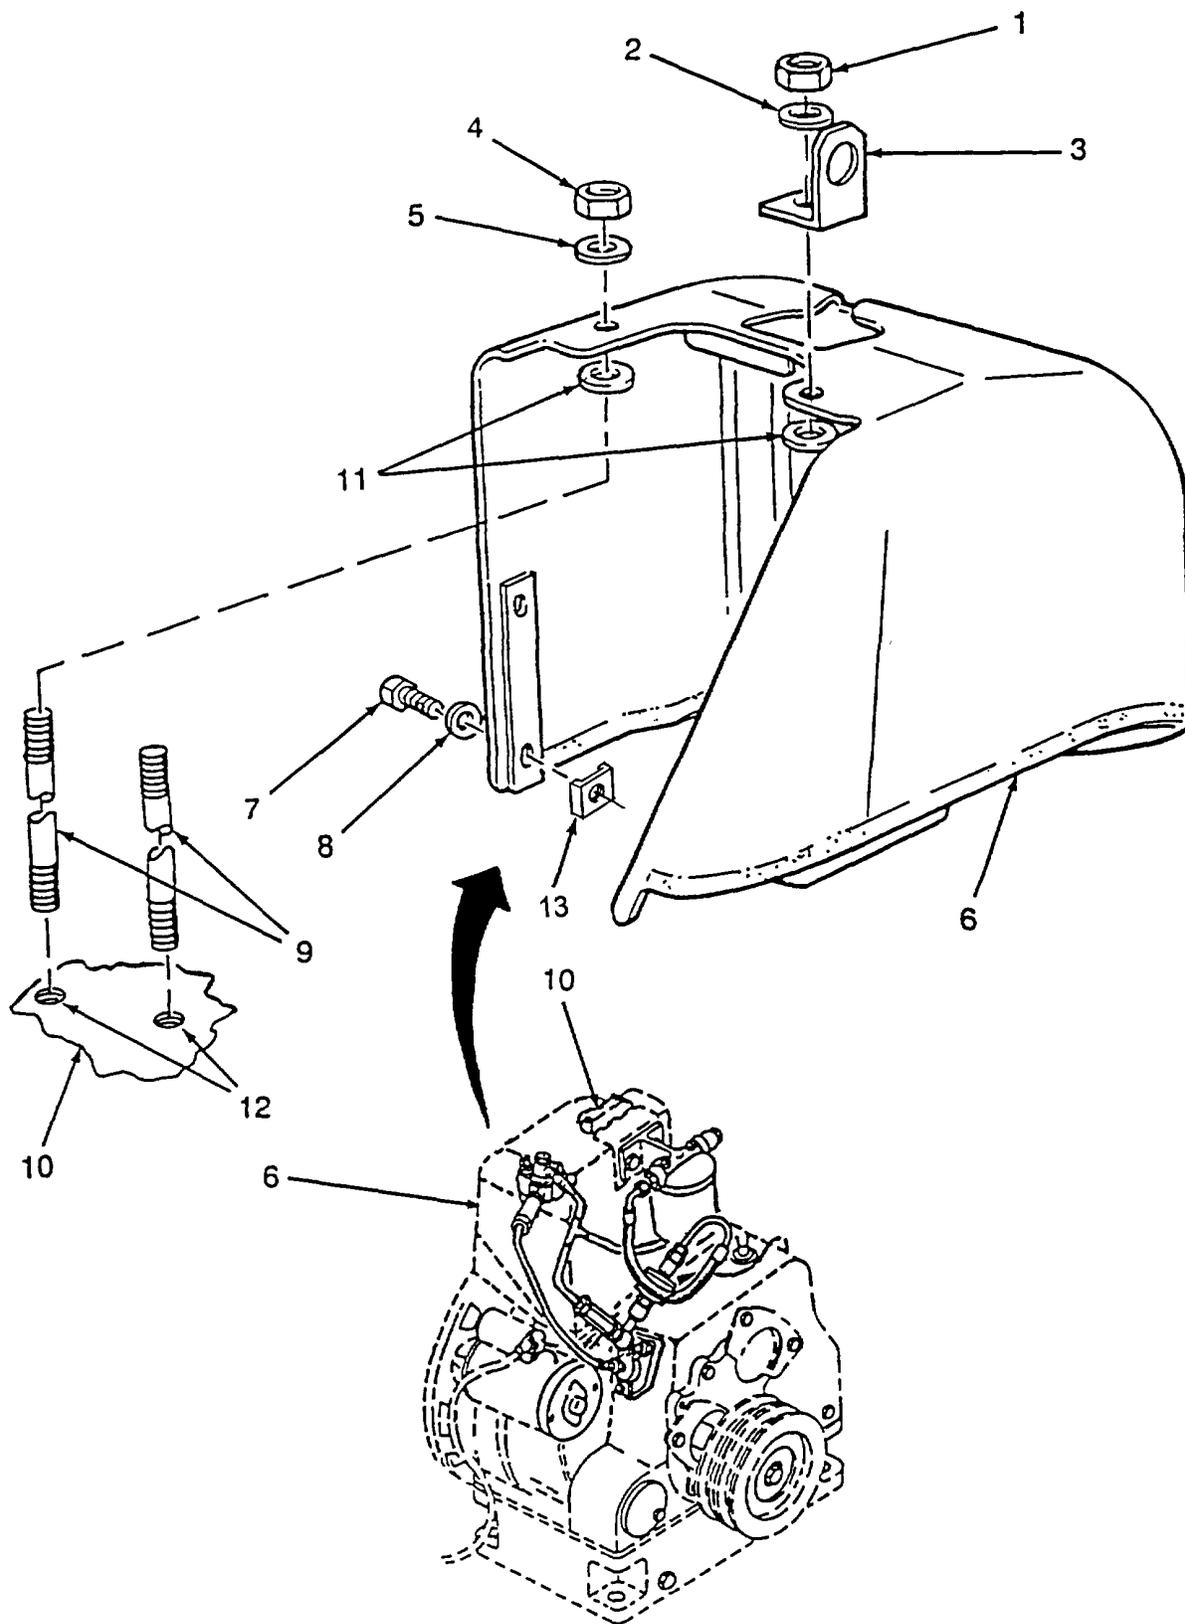

Figure 5-20. Engine Air Cowling
## (1) Removal. (Refer to Figure 5-20).
- (a) Remove nut (1), washer (2) and lifting eye (3).
- (b) Remove nut (4), washer (5) from top of engine air cowling (6).
- (c) Remove two cap screws (7), two washers (8) from side of engine air cowling (6).
- (d) Remove engine air cowling (6) and washers (11) from studs (9) on cylinder head (10). Remove captive nuts (13) from cowling (6)
- (e) Remove stud (9) from cylinder head (10).